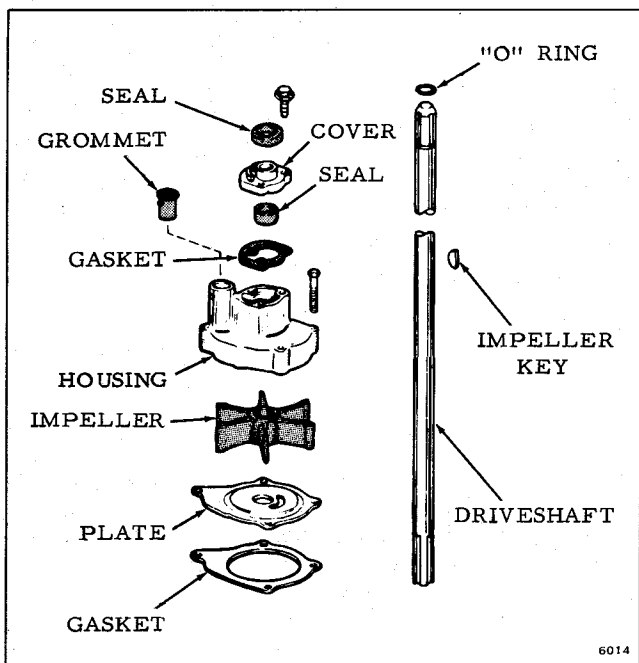

Figure 6-35. Water Pump - Heavy Duty Gearcase
j. Oil impeller and slide down driveshaft over key. Install impeller housing. Dip screws in Perfect Seal #4 thread lubricant and tighten to specified torque. Attach cover, using new gasket, seal, and seal rings. Dip screws in Perfect Seal #4 thread lubricant and tighten to specified torque. Install new grommet in impeller housing to prevent exhaust gases from getting into the cooling system, causing overheating and pre-ignition. It is especially important that the impeller housing seal ring fit properly to prevent exhaust gases from feeding back into the intake manifold through the driveshaft. Install new "O" ring on driveshaft. See Figure 6-35.